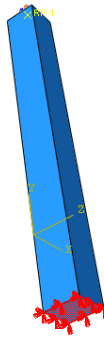

Figure L1a–9. Fixed end.
4. Rotate the part so that you can pick the desired face (bottom), as shown in Figure L1a–9.